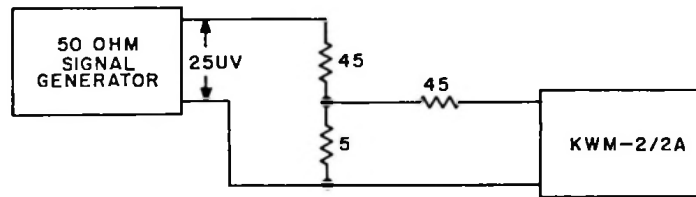

Figure 4-3. Receiver Gain Adjustment Setup
c. Remove short from J2. Using a 50-ohm calibrated signal generator, apply 25 uv to the circuit shown in figure 4-3. Adjust RCVR GAIN ADJUST R132 until S-meter just moves off zero (1/2 S-unit or less).